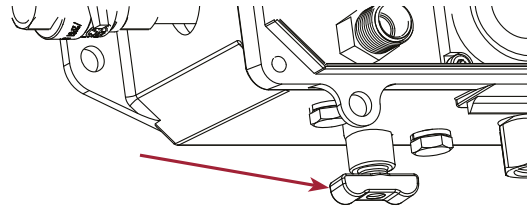

Figure 201: Early TIREMAAX Petcock
- 2a. Early TIREMAAX systems have a petcock either underneath the controller box or at the outlet going to the tyres. Refer Figure 201.